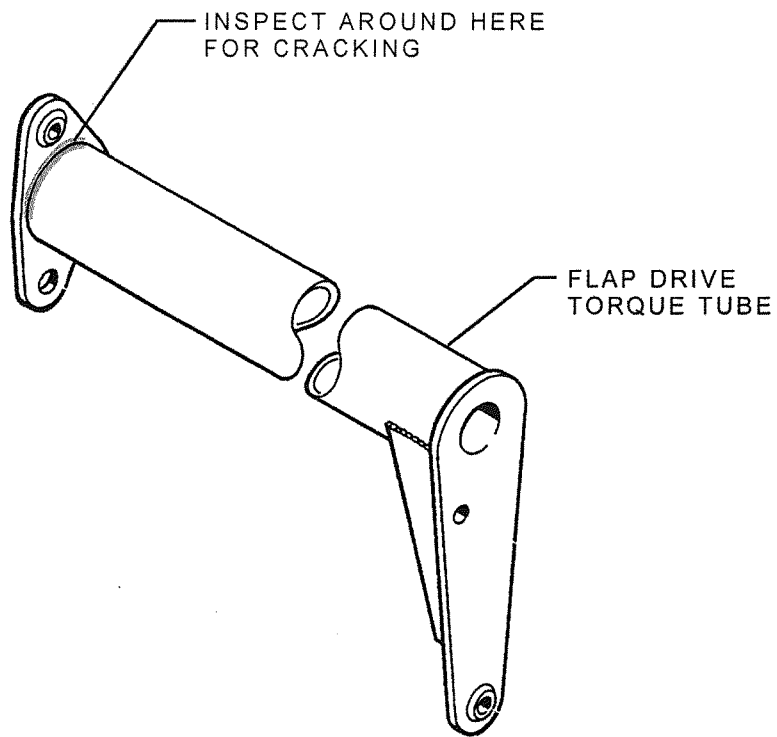

FIGURE 1
2. Visually inspect for signs of cracking, i.e. flaked paint etc. in area indicated ref. Figure 1. If in doubt remove paint locally and use dye penetrant as required.